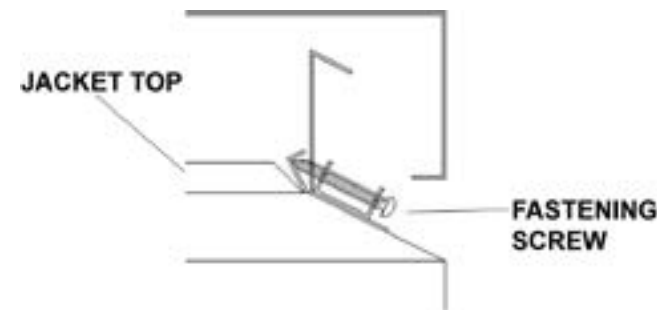

Figure 12. Outdoor Top Installation for Models 0514-0824
2. Tighten the (4) screws until they come in contact with the unit jacket top, then evenly tighten all (4) screws to secure to unit. See Figure 12.